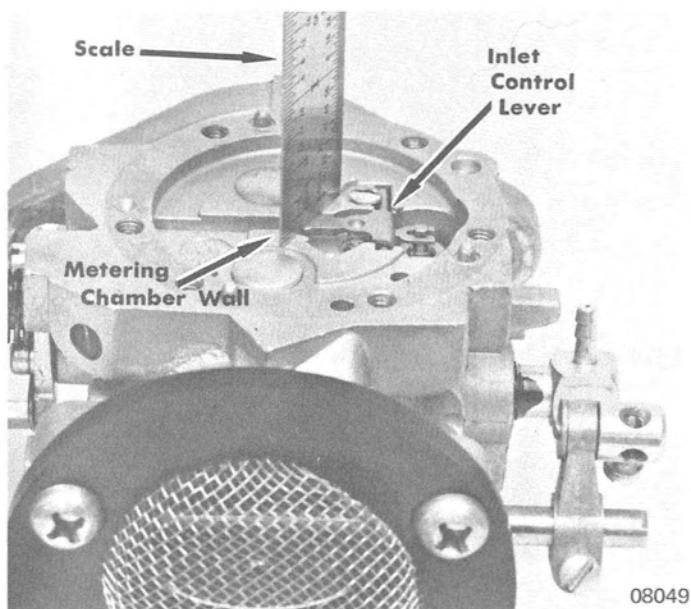

Figure 9. Inlet Control Lever Adjustment
- b. Assemble inlet control lever. Adjust lever so that center of lever, which contacts metering diaphragm, is flush with metering chamber wall, as shown in Figures 9 and 10.